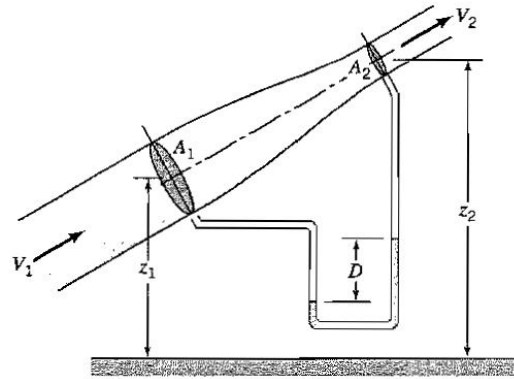

Figure P4.42:
4.42 A fluid of density ρ_1 flows through a circular nozzle as shown in Figure P4.42. The pressure difference between sections 1 and 2 is measured using a manometer filled with a liquid of density ρ_2 . Find the pressure difference $p_1 - p_2$ and the area ratio A_1/A_2 in terms of $z_1 - z_2$, D , ρ_1 , ρ_2 , and V_1 .